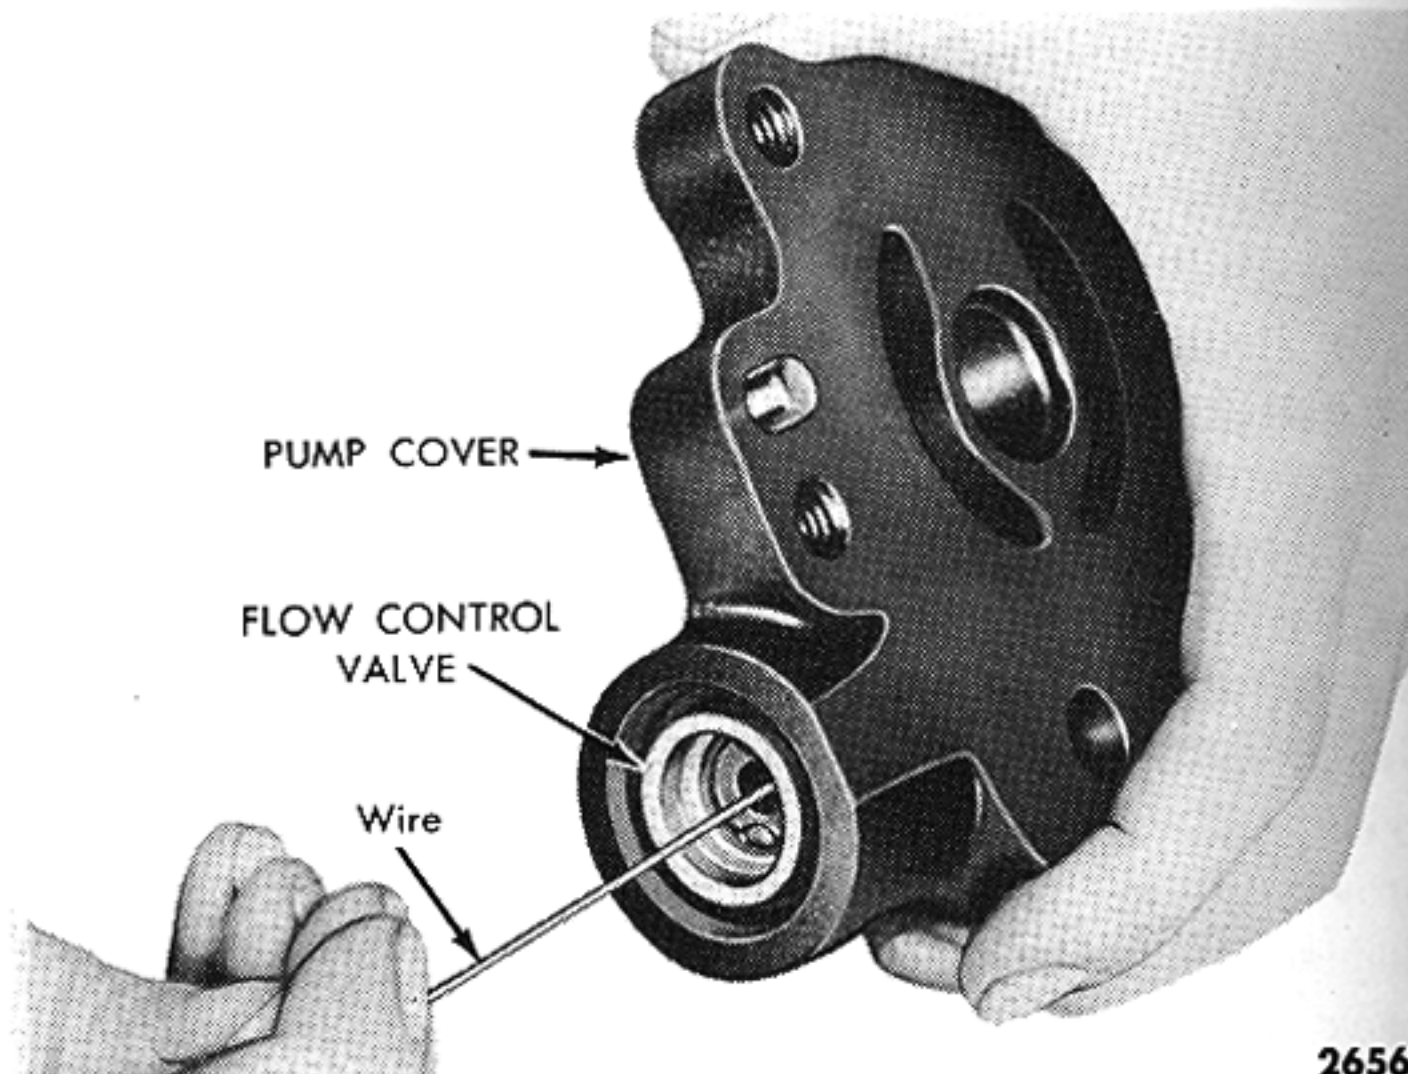

Figure 8—Flow Control Valve Removal
- pump cover with a wire, as shown in Figure 8.